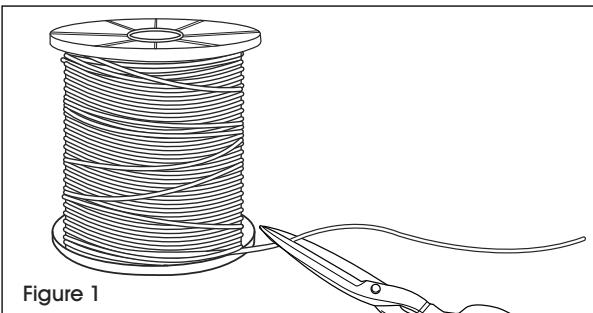

Figure 1
1. Cut bungee cord to desired length. (See Figure 1)